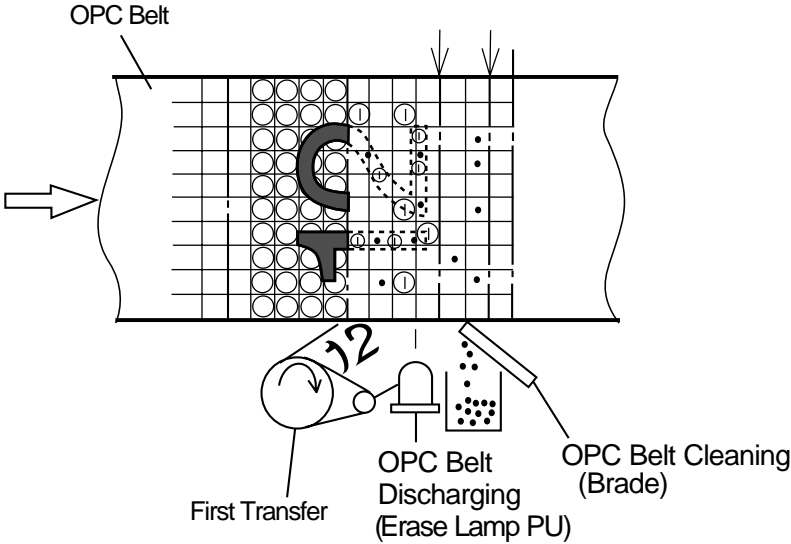

Fig.4-20
- (2) Process of OPC Belt Cleaning (Refer to Fig.4-20.)